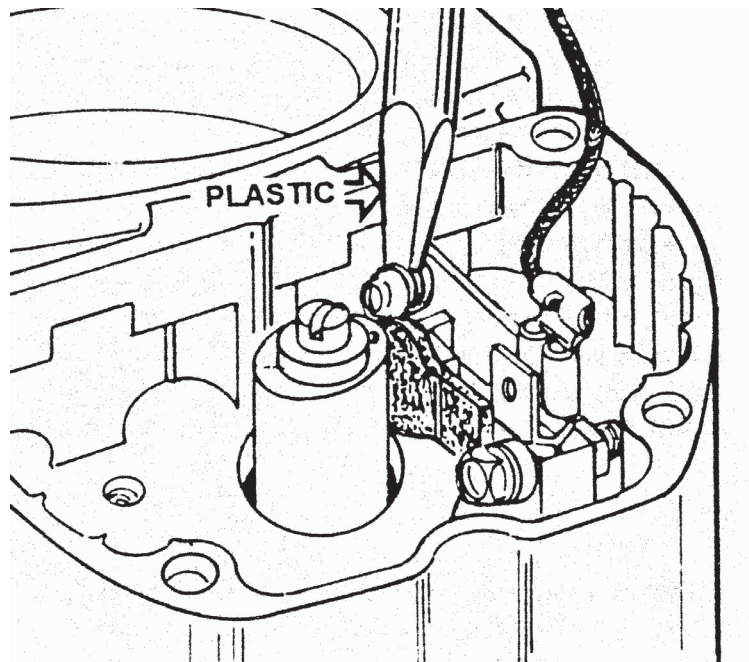

Figure 6-1. Check Contact Point Security
1. Remove the cover (6) from the housing (72) according to instructions in Section 4-2.1.
2. Examine the capacitor (10) and contact point leads (30) for condition and security. Inspect insulation for chafing or discoloration. Discoloration could indicate thermal breakdown. If insulation is nicked, chafed or cut, replace the affected component.
3. Turn the magneto drive shaft (61) until the cam follower of the main contacts rests on the high lobe of the cam (33), holding the points in their open position. Using a fiber or plastic rod with a screwdriver-shaped end, prod the contact points as illustrated in Figure 6-1. If contact points are loose, replace the contact assembly (30). Repeat the procedure for retard and tachometer point contacts, if installed.